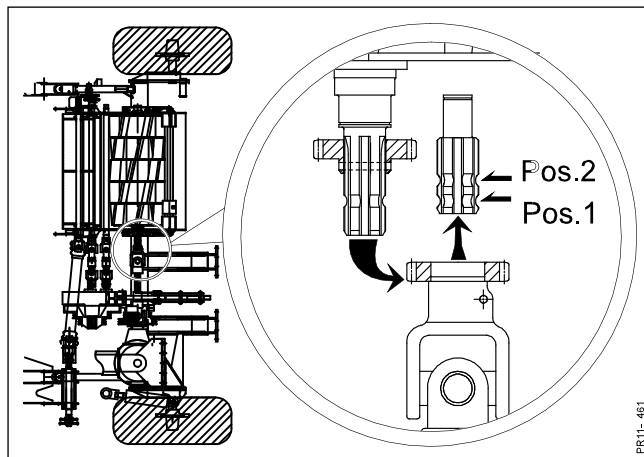

Fig. 4-29
- Fig. 4-29** The PTO drive shaft must be fixed at pos. 2 whereby the gear wheels are engaged and the rotor will rotate in the opposite direction.